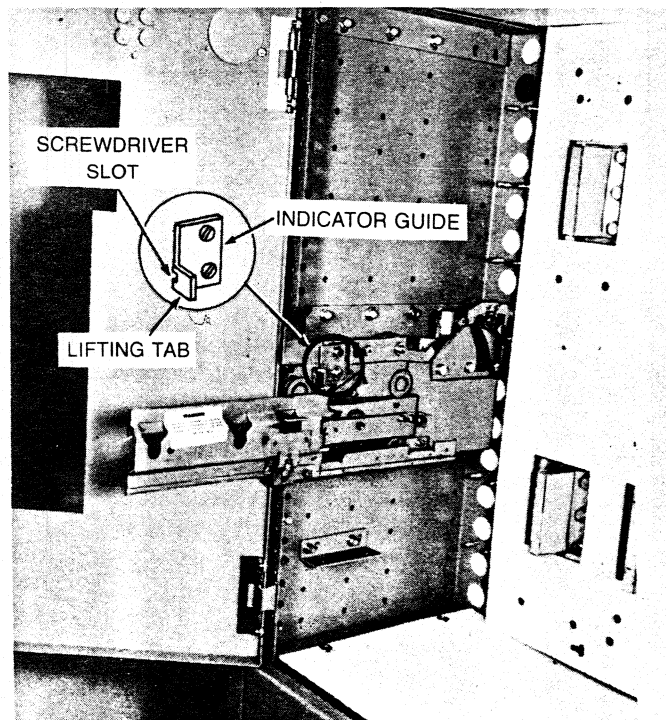

FIGURE 43. RAIL AND CAM ASSEMBLY—LEFT SIDE
2. Make sure the two indicator guide screws (Fig. 43) are tight, then back off both screws $\frac{1}{4}$ turn.